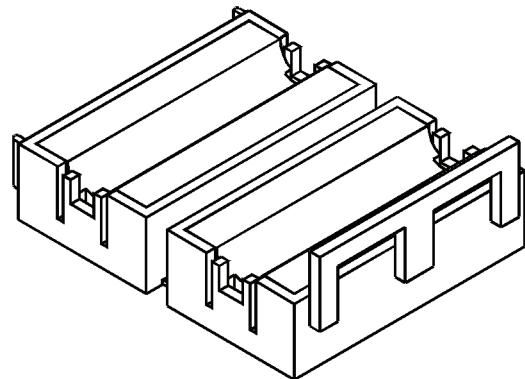

FIG. 3-17 SUPPRESSION CORE OPEN
Step 4. Open the core until it is wide enough to enclose all the strands of wire. (See Fig. 3-17)